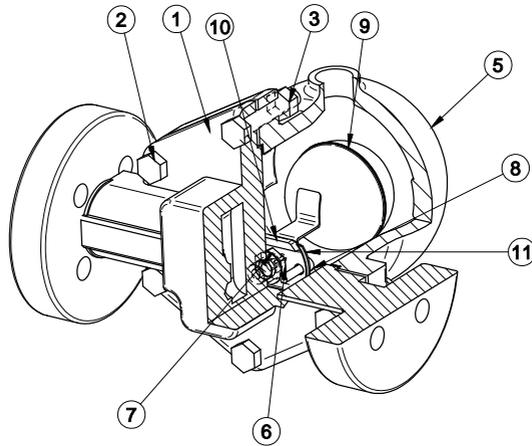

Figure 1: Forbes Marshall Liquid Drain Trap
(Refer to Figure 1) A Forbes Marshall Liquid Drain Trap works on the Buoyancy Principle. As Moisture enters the trap and raises the ball float (9). The position of the ball float (9) depends upon the level/load of Moisture (flow rate). The liquid drain trap continues to discharge Moisture and doesn't allow back up of Moisture as long as the load is within the discharge capacity. When the Moisture load drops, the ball float (9) lowers in position and closes the outlet orifice of the valve seat (6).
### 7.4. Maintaining the main valve assembly: [Refer figure 1 and 5]